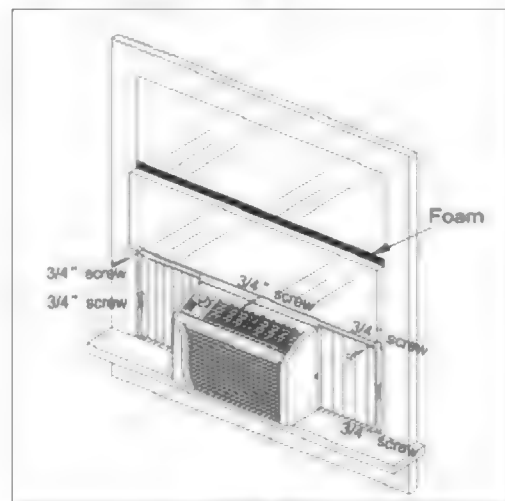

Fig. 6
6. Carefully lift the air conditioner and slide it into the open window. Make sure the bottom guide of the unit drops into the notches of the L brackets. When the air conditioner drops into the L brackets, the air conditioner will be centered in window opening as shown in Fig. 6.
Fix top channel to window sash with one 3/4" screw, and fix *side curtain frames* with four 3/4" screws as shown in Fig. 6.